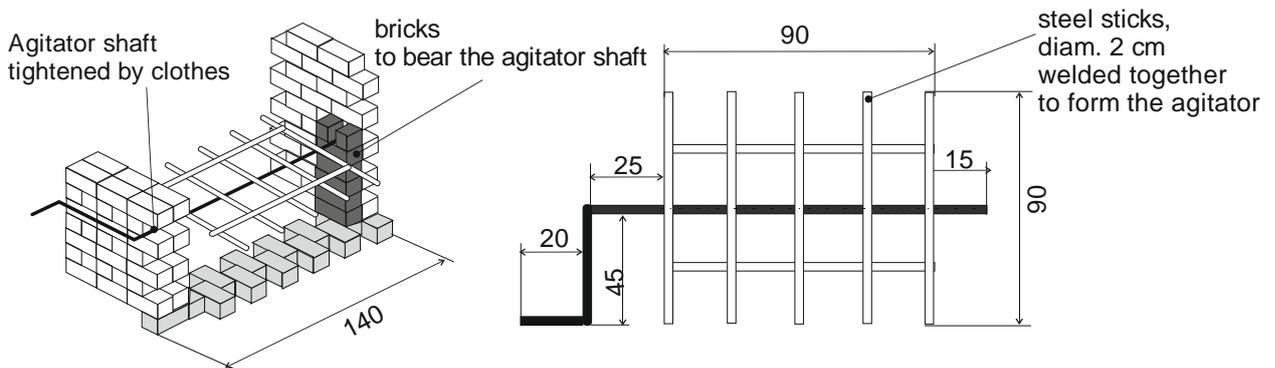

Fig. 3: Step 7: How to install the agitator (left), dimensions of the agitator (right)
7. Where the agitator shaft is planned to be embedded, put 5 stones one on each other and brick on top two stones cross (10 stones) (see Fig. 3). Lay in the agitator, constructed acc. to Fig. 3.